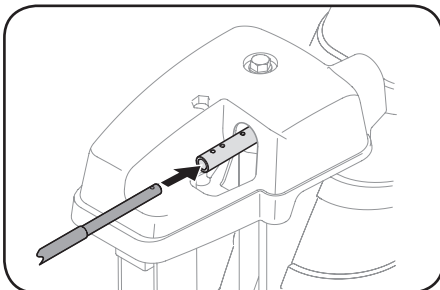

Figure 2-23
2. Insert round end of chute control rod into chute control assembly. Push rod as far into chute control assembly as possible, keeping holes in rod pointing upward. See Figure 2-23.